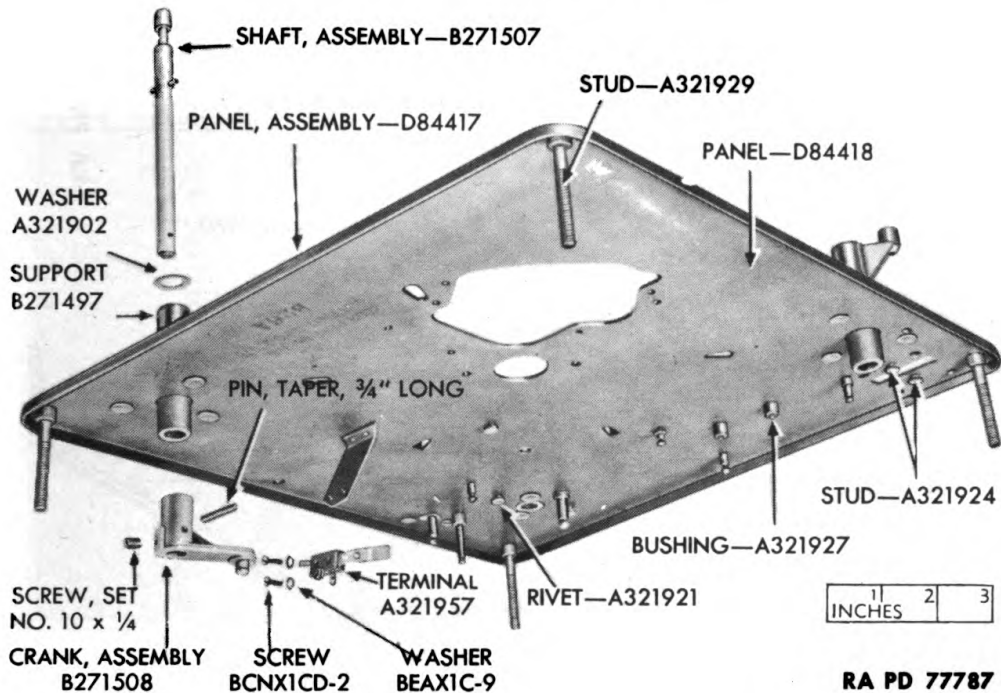

Figure 71 — Removal of Selector Crank and Lead Terminal With Related Parts From Record Changer
(16) Remove the selector shaft assembly (fig. 71) from the crank assembly by driving out the taper pin and removing the set screw. Remove the lead terminal from its bracket by removing the two screws and lock washers to complete the disassembly of the record changer.